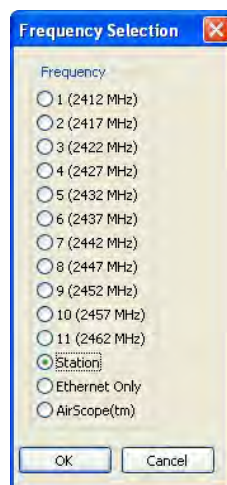

Figure 23: Station
1. Starting a new network of ESTeem 210s in Mobile Client mode is the same as any of the Bridge modes except when you are asked for the frequency (channel) of operation, select “Station” (Figure 23).